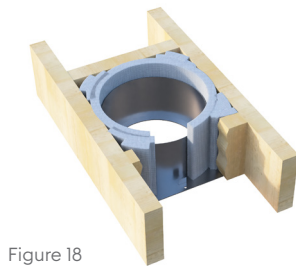

Figure 18
2. With the Bottom Plate & Radiation Shield fixed in position, fill the space around the Radiation Shield with insulating blanket as provided, making sure that all the corners of the frame are fully insulated. See Figure 18.